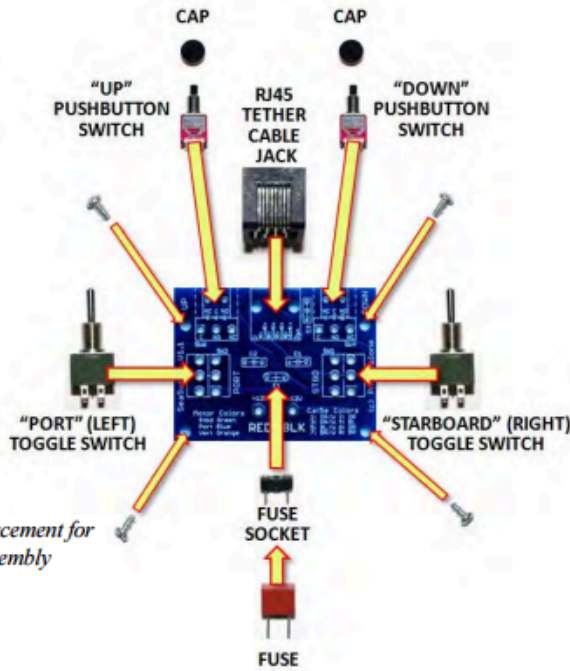

Figure 3.3-1: Component Placement for the Control Box PCB Assembly
1) Review Figure 3.3-1, and refer to it as needed during the following assembly steps. The parts will be installed in order according to their size, smallest first. DO NOT INSTALL COMPONENTS UNTIL IS IS CALLED FOR IN THE INSTRUCTIONS